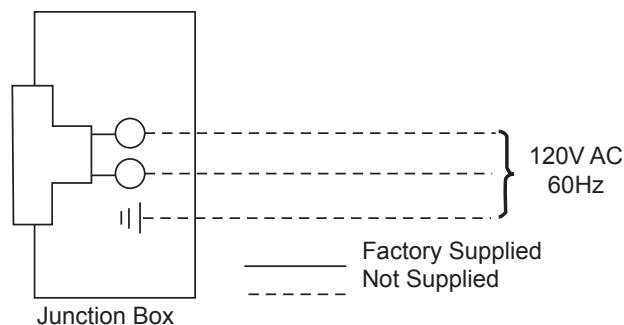

Figure 57 -
3. The junction box cover has a factory installed “romex” style strain relief connector. After connecting the wires, route the wire leads through this connector. Refer to the wiring diagram in *Figure 57*.